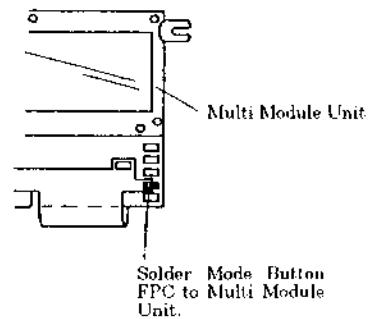

Fig.69
- 5) Solder the Mode Button FPC at its one pattern. (See Fig. 69)